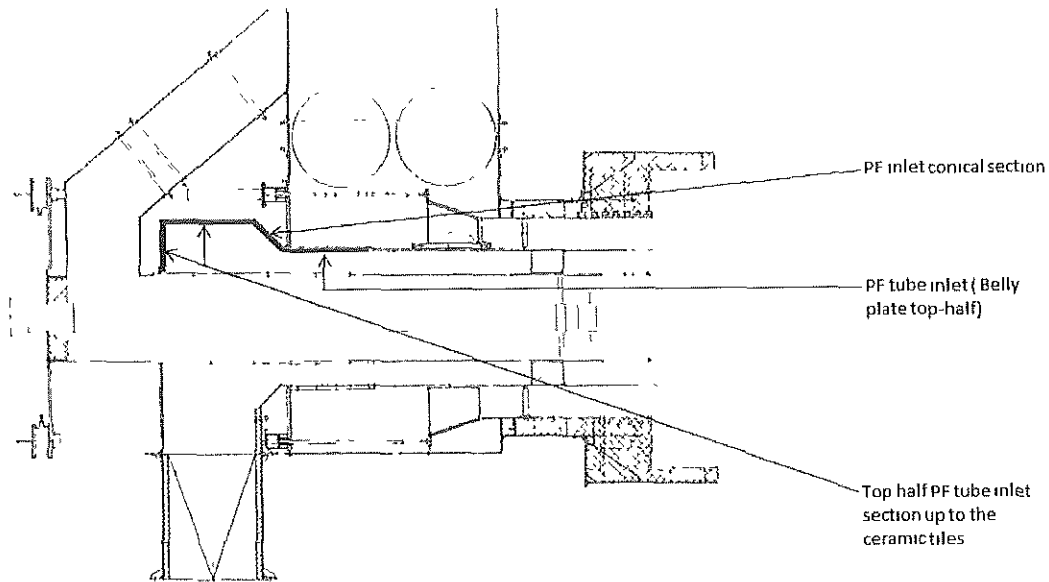

Figure 1: burner assembly
- **Tiling in PF tubes consists of the following (See figure 1):**